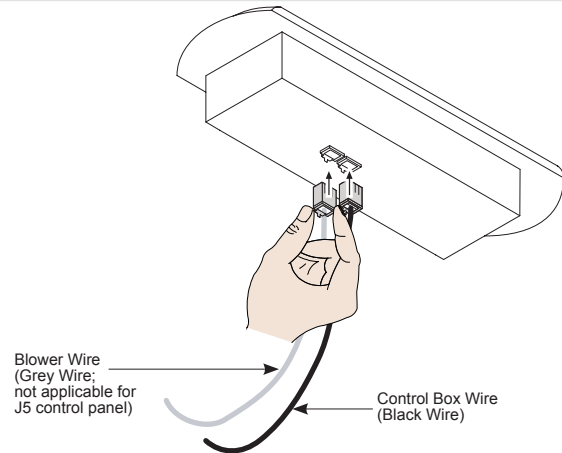

Figure 4 - Control Panel
- 1** Insert the wire connector(s) into the back of the control panel (Figure 4). The J5 LCD control panel only requires insertion of the black control box wire.